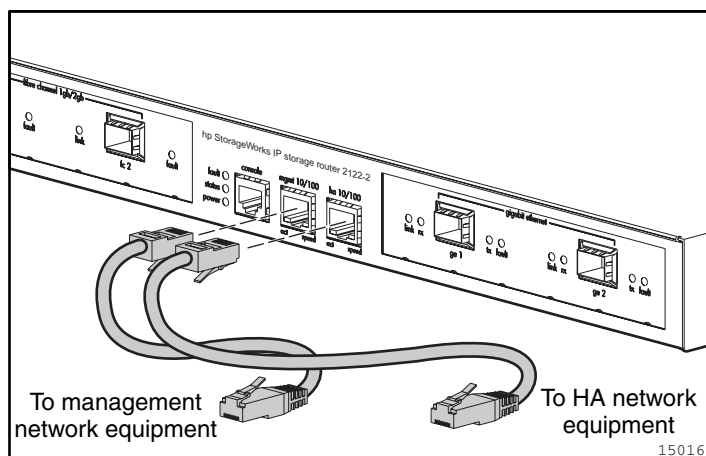

Figure 25: Connecting to the 10/100 management and HA ports
2. Connect the appropriate modular cables to the 10/100 management and HA ports (see Figure 25).